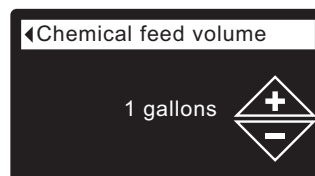

FIG. 77
7. Press the SELECT (O) button to display the Chemical feed volume or Chemical feed timer menu (See Figures 77 & 78).